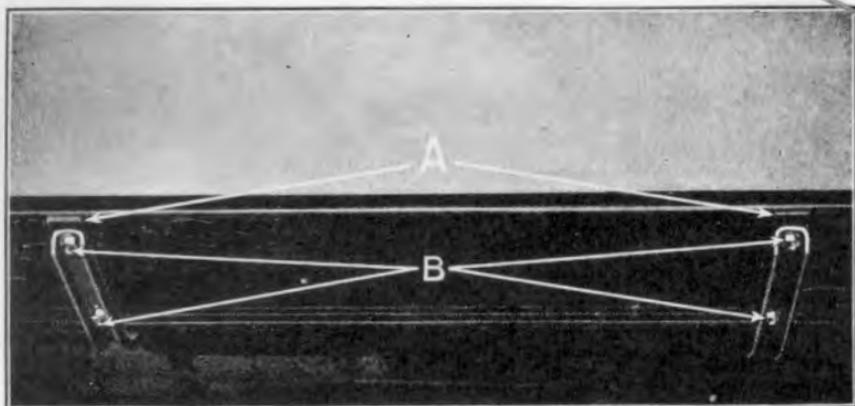

Fig. 107
- (b) Place running board blocks (See "A" Fig. 107) on running board brackets.